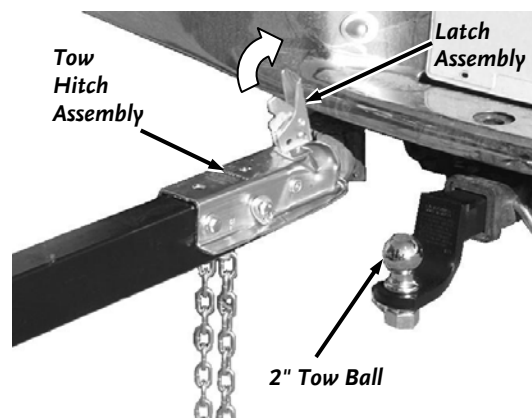

Figure 69
1. Pull the latch assembly on the Tow Hitch Assembly up and into the open position. Position the hitch coupler of the Chipper over and onto the tow vehicle's tow ball (must be a 2" tow ball) (**Figure 69**).